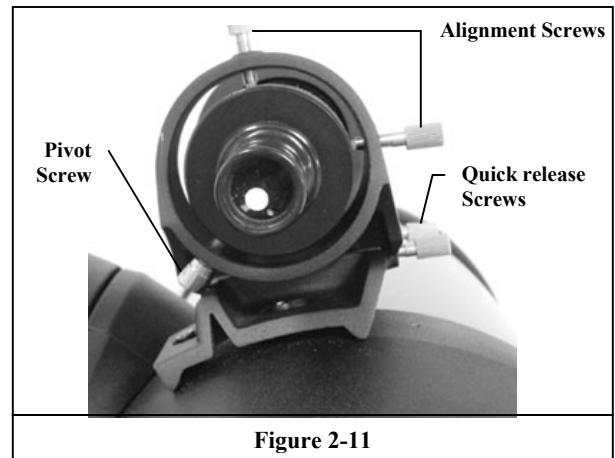

Figure 2-11
- Slide the eyepiece end of the finderscope into the front ring of the bracket (the front ring is the one without the adjustment screws), then through the back ring. It may be necessary to push down the spring loaded pivot screw so that the finder will pass through the back ring (see figure 2-11)